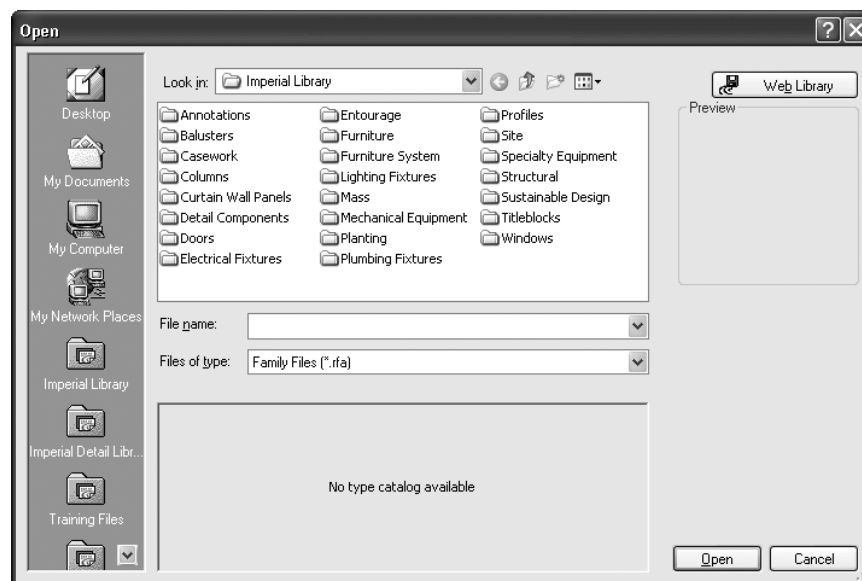

Figure 3-4.1 Load groups
At this point you should see the various categories (folders) available on your local hard drive (Figure 3-4.1). You should take a minute to explore these folders (just don't click the OK button). You will notice that an elevator is not found anywhere. We will have to download it from the web. *Of course you will need to be connected to the Internet.*
3. Click the **Web Library** button in the upper right (Figure 3-4.1).
10. Browse to the *Desktop* and select the **Elevator-Electric.RFA**, and then click **Open** (similar to Figure 3-4.1).